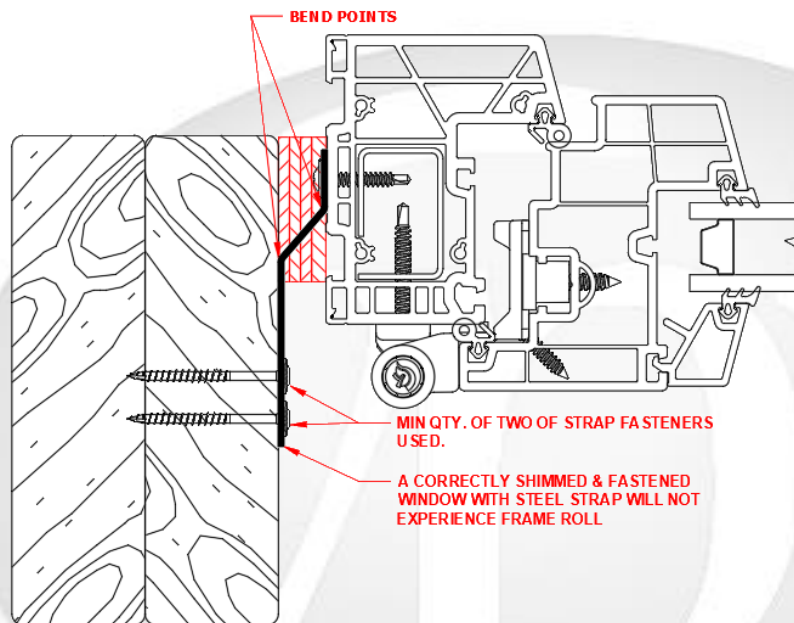

Figure 10: Example of Correctly Shimmied & Fastened Window with Steel Strap
- III. By bending at the bend points of all straps, fasten the straps of the window to the rough opening. (See Figure 10) Bend the strap to eliminate torsion on the frame.